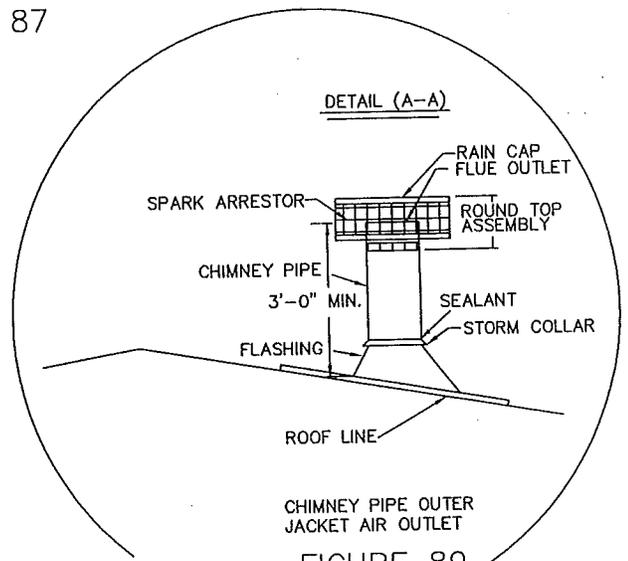

FIGURE 89
2. Install the storm collar over the roof flashing. The storm collar must rest on top of the flashing spacers. Install the tabs through the slot on the opposite end of the storm collar and push storm collar down over the chimney so that it rests on the roof flashing. Pull the tab to tighten the storm collar against the chimney pipe. Seal top edge of storm collar with non-combustible waterproof sealant. See Figure 89.